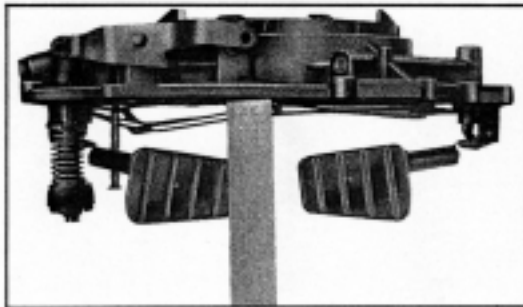

Fig. 9 Checking Float Drop
- (1) With float held in an upright position, check distance between air horn with gasket in place and the toe of float at end of radius as shown in Fig. 9. Float drop is correct when this distance is $1\text{-}13/16'' + 1/32''$. Note that this gauging is done at the toe of the float and NOT at the heel as shown in the 1957 Shop Manual.
- (2) If adjustment is necessary, bend float tang toward float needle seat to lessen drop and away from seat to increase drop.